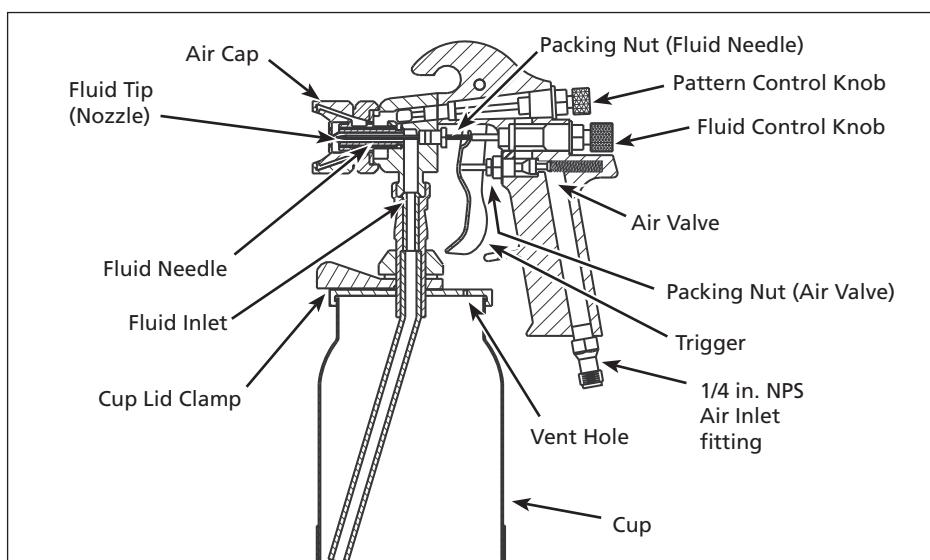

Figure 14 - Conventional Siphon Spray Gun
5. Unscrew packing nuts and replace the packing ONLY if a leak will not stop when the nut is tightened (See Figure 14). Do not over-tighten a packing nut because this will restrict movement of the needle.